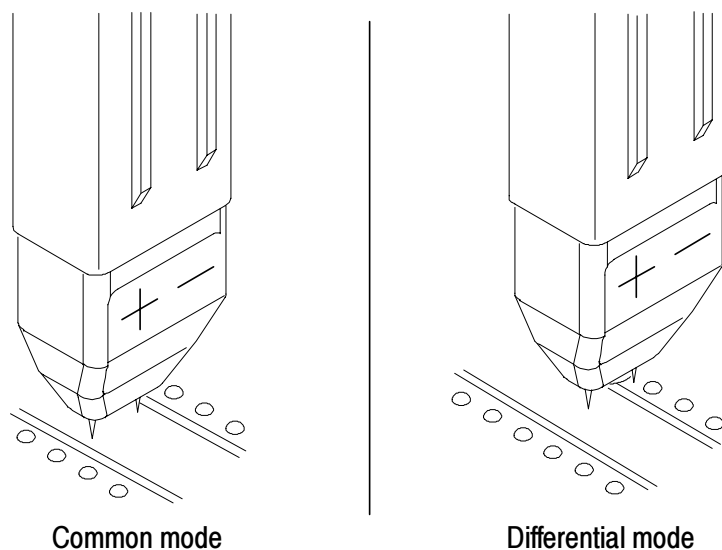

Figure 17: Probe Calibration Fixture test points
- Using the fine position and/or pressure adjust, maneuver the probe so that the pins contact the CM or DM test points, depending on which test you are performing. (See Figure 17.)